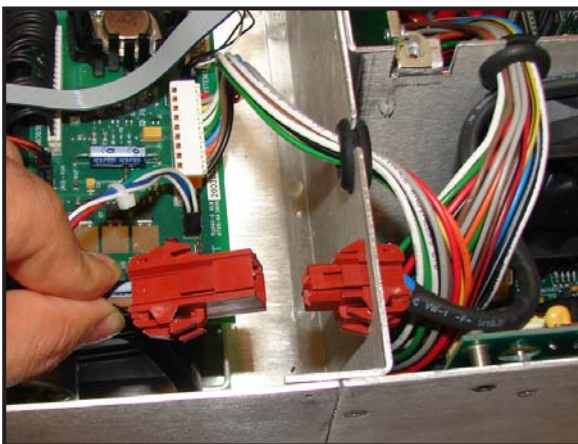

Figure 6-21
8. Disconnect the power switch cable from the power supply bulkhead-mounted connector (See Figure 6-21).
3. Disconnect the power switch cable from the power supply bulkhead-mounted connector (See Figure 6-21).